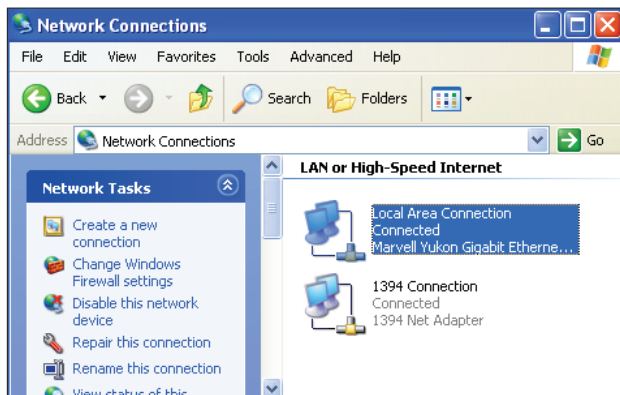

Figure 5: Network Connections Window
- 2.) Double-click on the **Network Connections** icon. The *Network Connections Window* will appear (Figure 5).